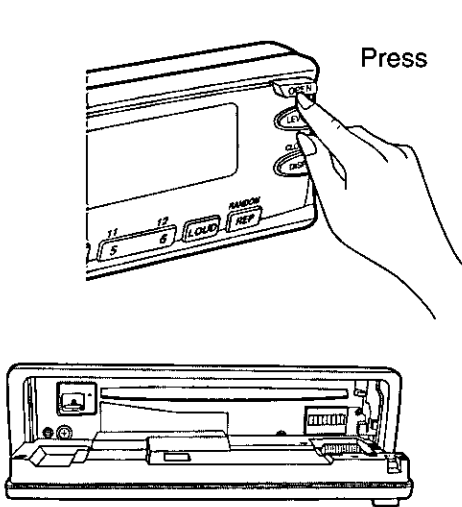

Fig. 4
- ① Switch off the power.
- ② Press [OPEN]. The removable face plate will be opened. (⇒ Fig. 4)